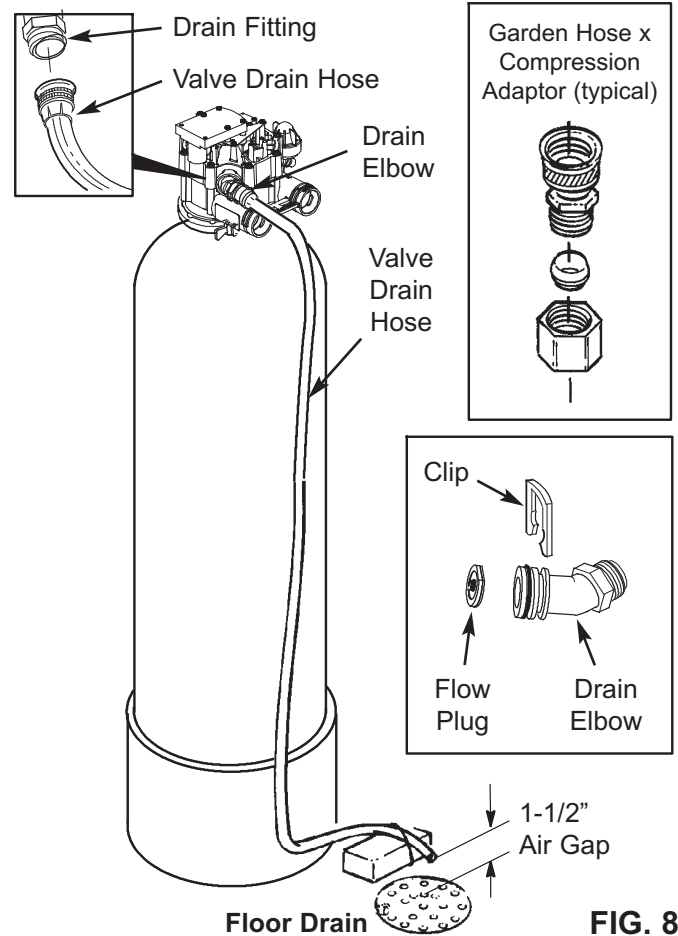

FIG. 8
5. Install Valve Drain Hose: The drain fitting accepts a garden hose connection (Figure 8). Attach the drain hose to the drain elbow. Place the other end of the hose at the drain point, and observe the following.